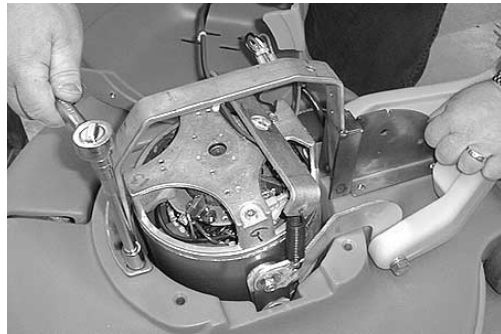

Fig. 8
8. Remove (6) screws that mount the handle latch plate bracket to base, 1/2" socket wrench required. Dispose of old handle latch plate bracket (Figure 8).